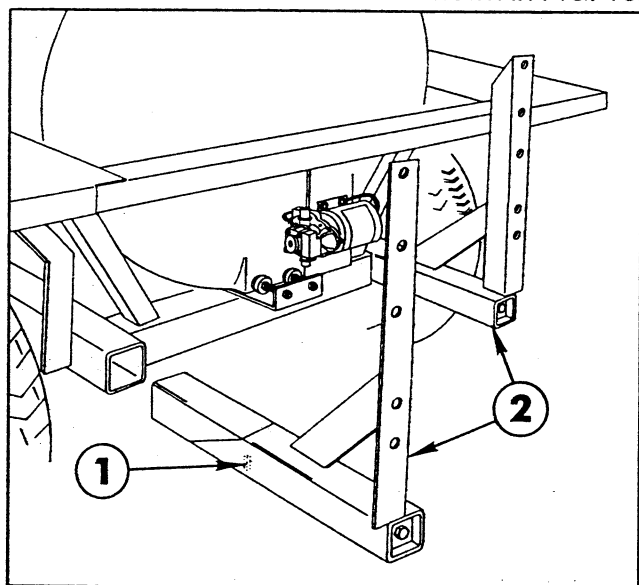

FIG. 18
2. Apply a heavy coating of grease to the tubes of the two Boom Mount Assemblies and insert them into the Vehicle Frame as shown in FIG. 18.